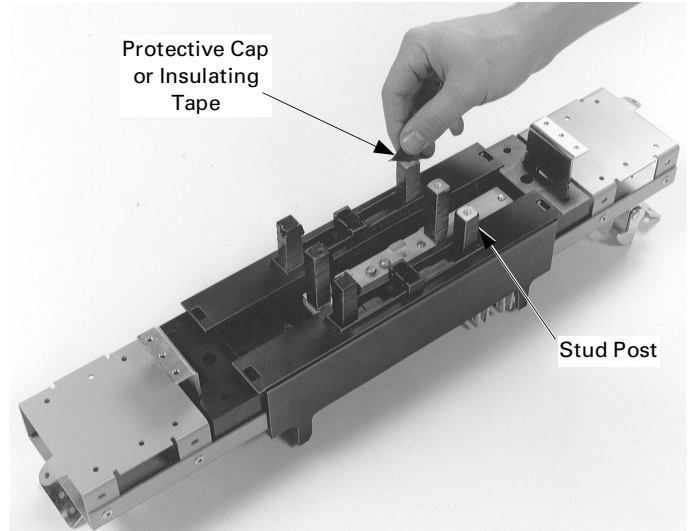
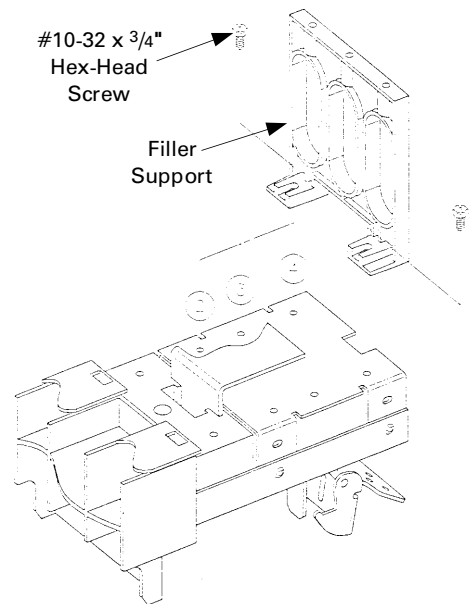

Figure 2. Removing the caps or tape from the stud posts of the breaker module.
Figure 3. Fastening the filler supports in position.
- 2. Prepare the module.** Remove the protective caps or insulating tape only from the tops of the stud posts to which the circuit breaker is to be attached, as shown in Figure 2. Fasten the filler supports, as shown in Figure 3, with #10-32 x 3/4" hex-head screws tightened to 15–20 in-lb.